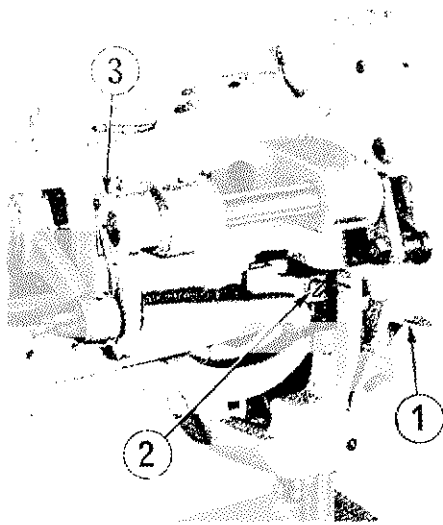

Fig. 19
To adjust the height of the presser foot by the hand lifter (Fig. 19 (1)), loosen the clamp screw of the lifter lever bracket (Fig. 19 (2)), adjust the clearance between the lower surface of the presser foot and the upper surface of the needle plate to approximately 8.5 mm (21/64") while lifting the hand lifter, then tighten the clamp screw.
To adjust the height of the presser foot and the walking foot so that the rising amount becomes equal, lower the presser foot, loosen the clamping screw (Fig. 19 (3)) of the upper feed spring rod, rotate the hand wheel slowly towards you and when the surface of the presser foot and the walking foot come in one line with respect to the upper surface of the throat plate when the presser foot completes its oscillating movement, tighten the screw. To change the rising amount of the presser foot and the walking foot, loosen the upper feed spring
rod, of screw (Fig. 19 3 ) and when the lower surface of the presser foot and the walking foot come in one line above the throat plate, turn the hand wheel towards the operator and re-tighten the screw. Then the presser foot amount becomes larger than the walking foot amount. But if the hand wheel is rotated in the reverse direction away from the operator, the reverse condition ensues, i.e. the rising amount of the walking foot gets larger than the presser foot. Consequently, the greater the rotation of the hand wheel, the greater the difference in the rising amount of the presser foot and the walking foot.